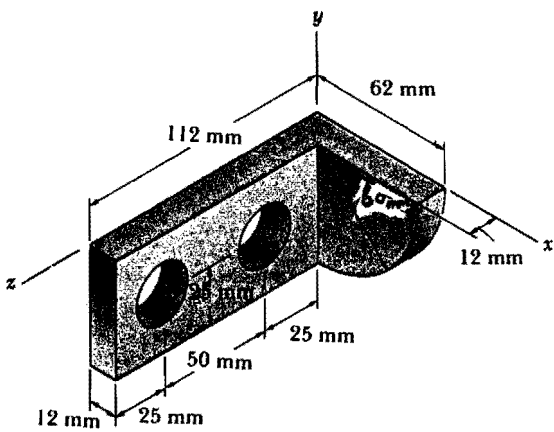

Fig. 1
1. Locate the center of gravity of the element shown in Fig. 1. Both holes are of 25 mm diameter. (20 %)